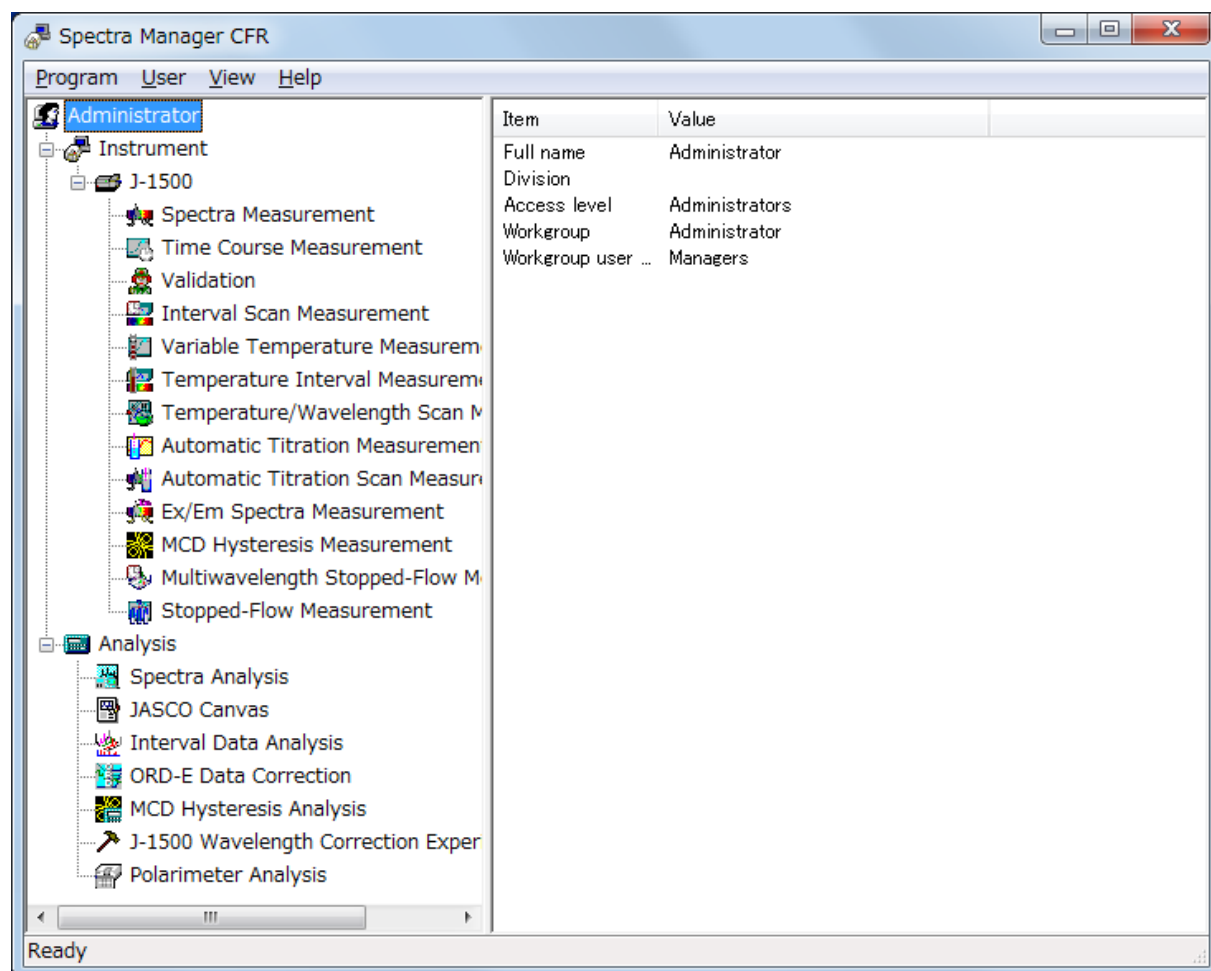

Figure 2.15 [Spectra Manager CFR] window
- (1) After starting *Windows*, double-click the [Spectra Manager] icon located on the *Windows* desktop. Type the username and password in the logon dialog box to display the window in Fig. 2.15.